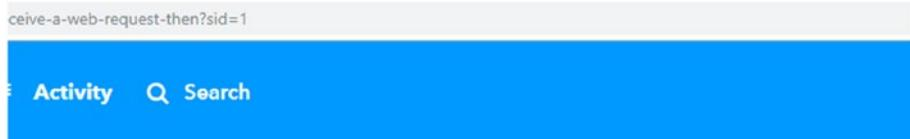

Figure 8-31. IFTTT recipe format second condition
12. Click the “+that” link (Figure 8-31).